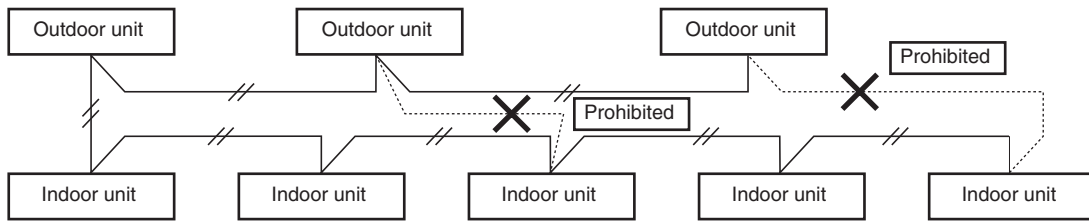

Fig. 4-3
- (1) When linking the outdoor units in a network, disconnect the terminal extended from the short plug from all outdoor units except any one of the outdoor units. (When shipping: In shorted condition.) For a system without link (no wiring connection between outdoor units), do not remove the short plug.
- (2) Do not install the inter-unit control wiring in a way that forms a loop. (Fig. 4-3)